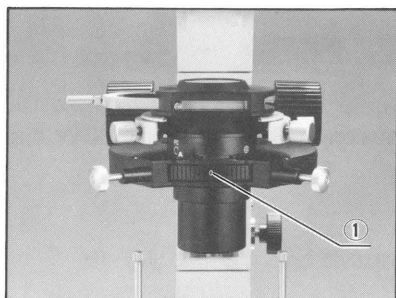

Fig. 13
- 1) Rotate the condenser turret ① until the turret is matched with the objective magnification. (Fig. 13)